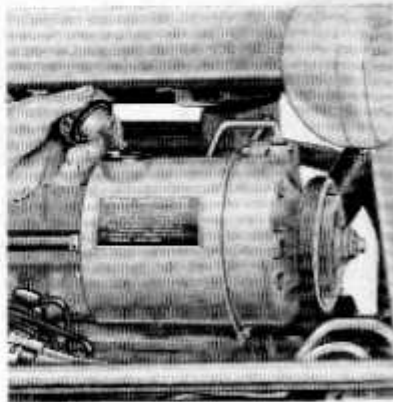

Figure 27
**Power Steering Pump Reservoir:** Check the oil level every 100 HOURS OF OPERATION. Remove the pump reservoir top and check the oil level with the dipstick attached (Figure 27). For an accurate reading, the tractor wheels should be turned to the left against the stops.